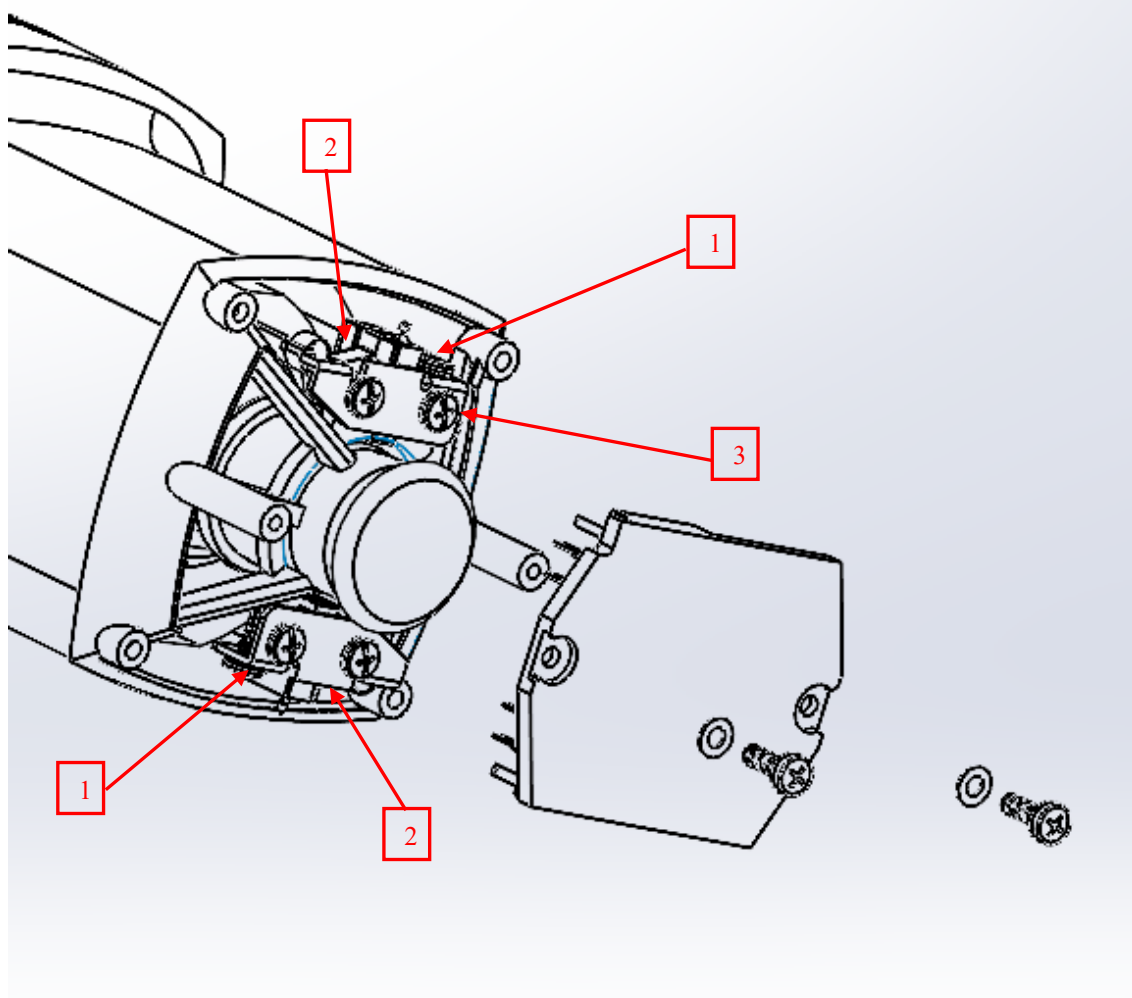

Figure 1.10
- 1.4.2 Loosen the two screws as shown in figure 1.10 – position 1, unhook the springs in position 2 – figure 1.10 – with the help of a screwdriver and unscrew the four screws in position 3 – figure 1.10;